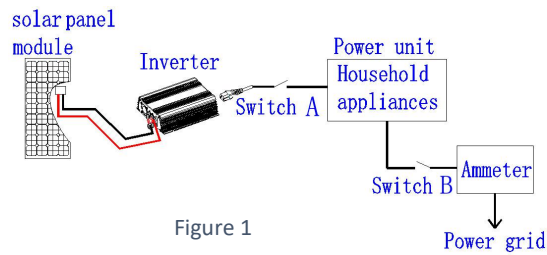

Figure 1
- There must be a circuit breaker between solar power generation and power grid (show like the "switch A" in figure 1). And there will be no load before the circuit breaker.
- If you need to disconnect the mains switch when the solar power generation is in operation, you must disconnect the control switch first (show like the "switch A" in figure 1).